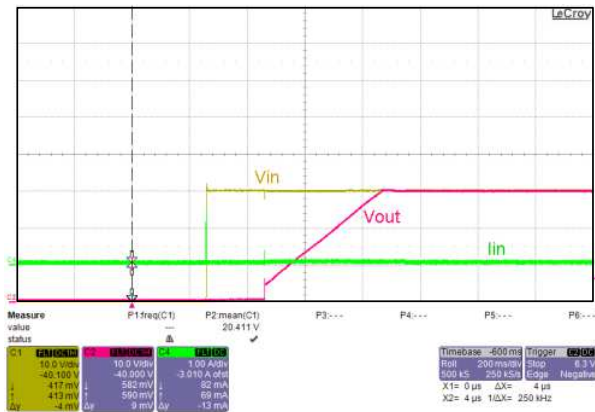

Figure 4. Start-Up Pattern With Unloaded Output
- **Turn on SAS Verify proper startup pattern (see Figure 4).**